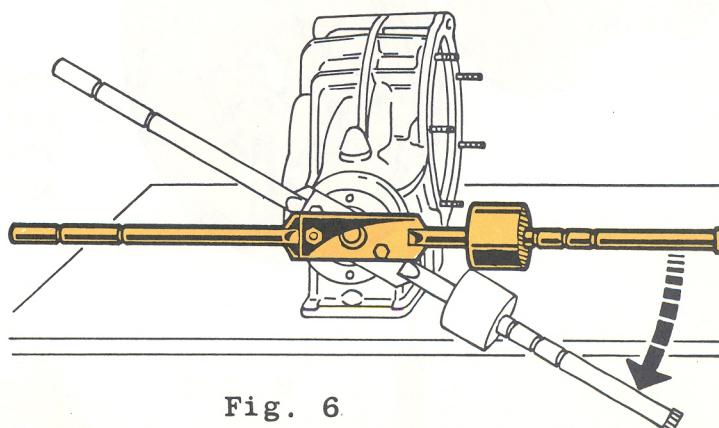

Fig. 6
- 5 Swing the tool in both directions once or twice; then check the pre-load. It is correct when, on leaving the tool arms free in horizontal position, the weight moves downward slowly through about 30 degrees. See fig. 6.